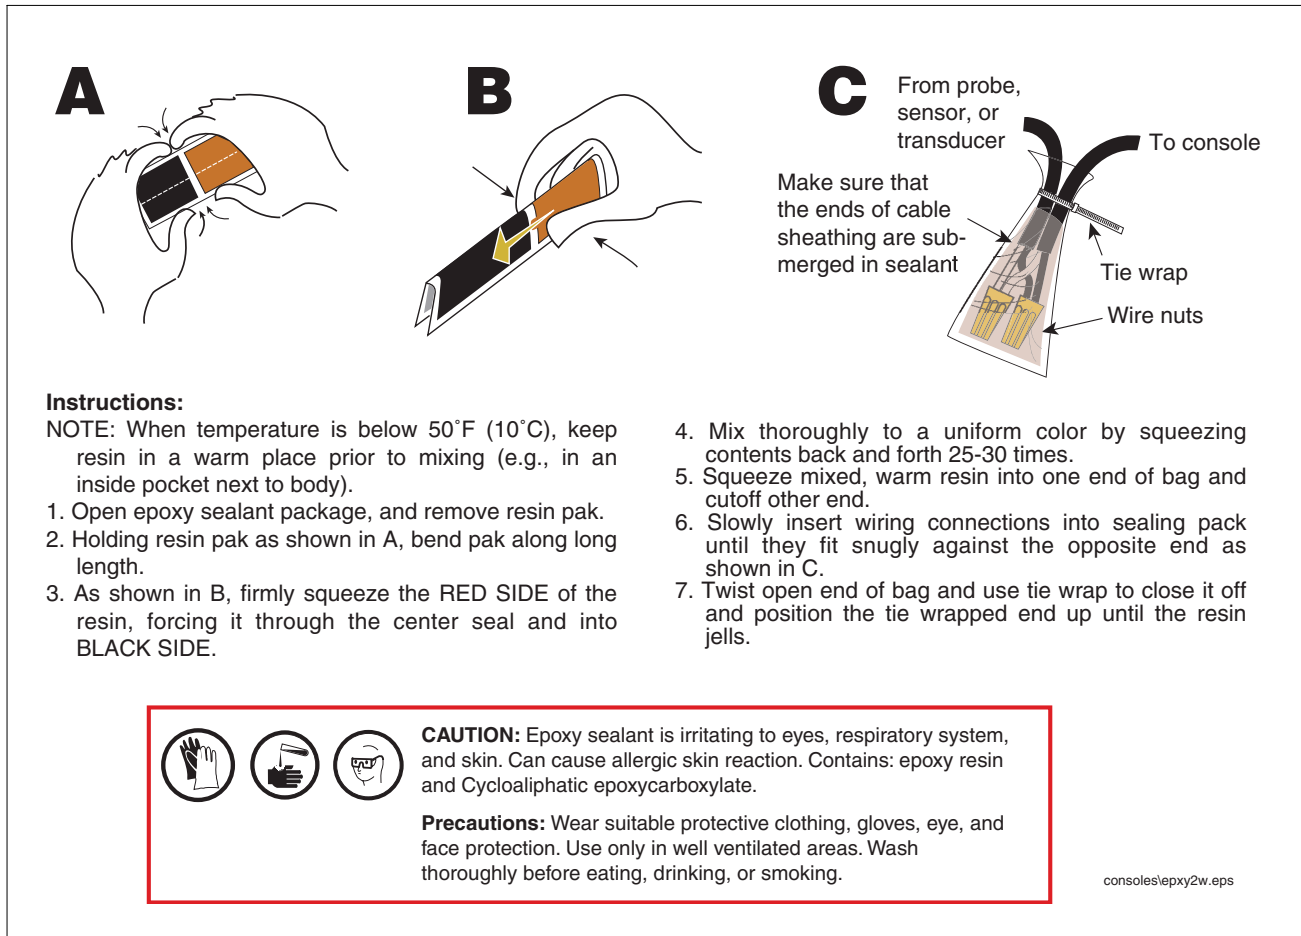

Figure 3. Epoxy sealing field wiring
12.Seal wire nuts in epoxy sealant following the instructions in Figure 3.